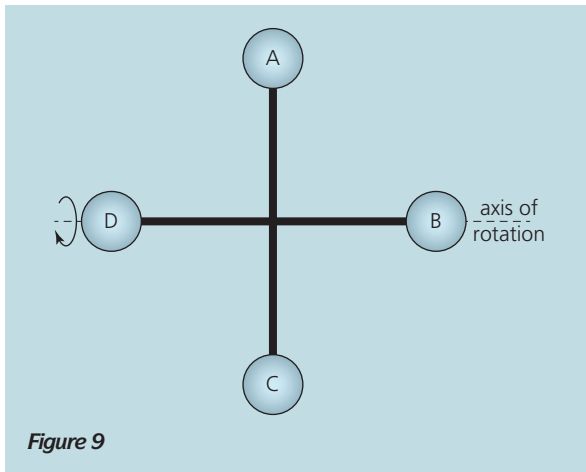

Figure 9
- The structure is now spun along the DB axis in Figure 9. What is the new moment of inertia?